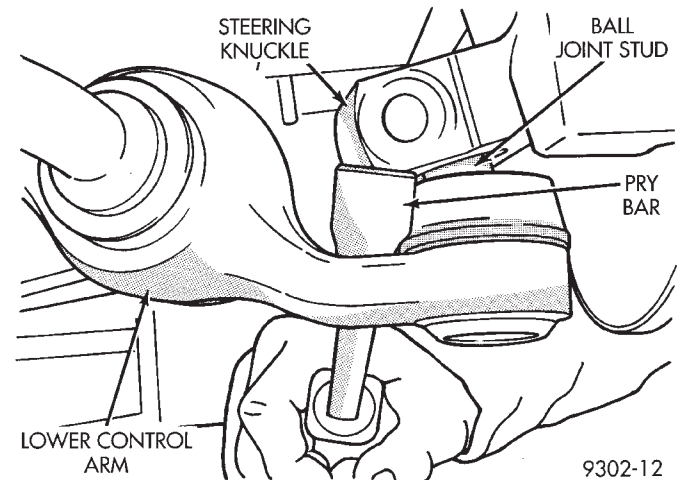

Fig. 29 Separating Ball Joint From Steering Knuckle
(4) Carefully insert a pry bar between lower control arm and steering knuckle (Fig. 29). Push down on pry bar to separate ball joint stud from steering knuckle (Fig. 29).